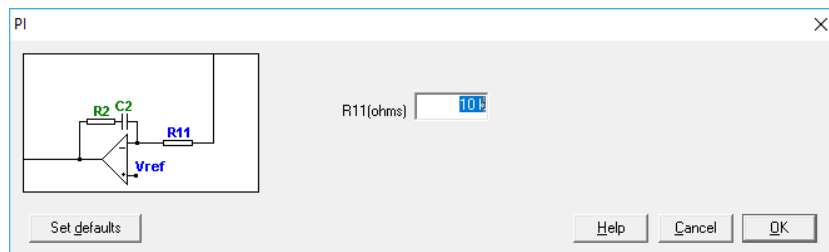

Figure 7: outer loop compensator
- b) Compensator: select a PI. See Figure 7.